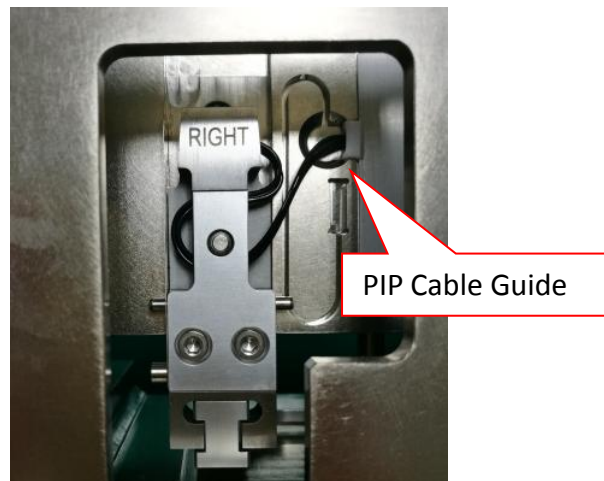

Figure 27 PIP Cable Guide Removal
6. Remove PIP Cable Guide as shown in Figure 27.